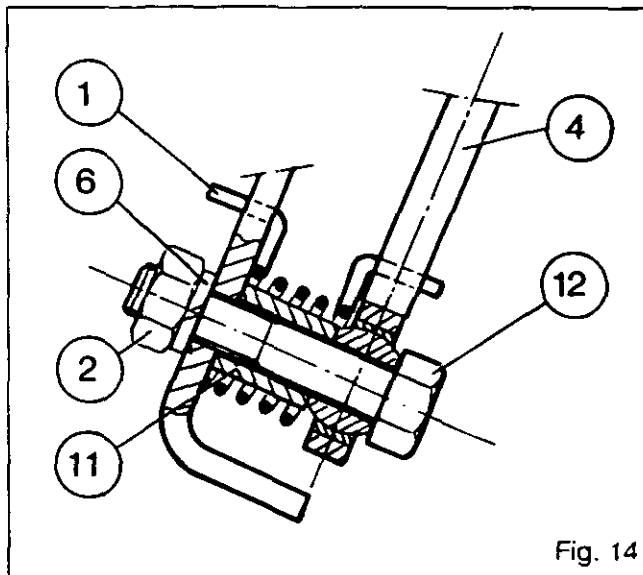

Fig. 14
**D. Fitting the control lever (Figs. 14 and 15)**
62. Remove nut (2) and washer (6). Separate screw (12) from lever (4) spacer (11) and spring (1).
63. Fit pin (5) and washer (6) on the console and tighten nut (2).
64. Position spring (1), lever (4) and link (7) with bearings (3) and spring (8).
65. Put on washer (9) and fit retaining ring (10).